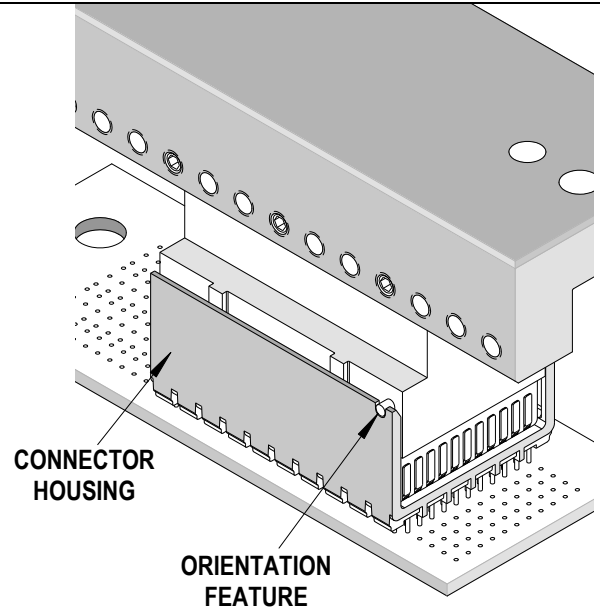

Figure 2-7
3. Locate the tooling assembly in the connector assembly, carefully checking alignment. The orientation feature on the tool must engage with the notch on the connector housing. See Figure 2-7.